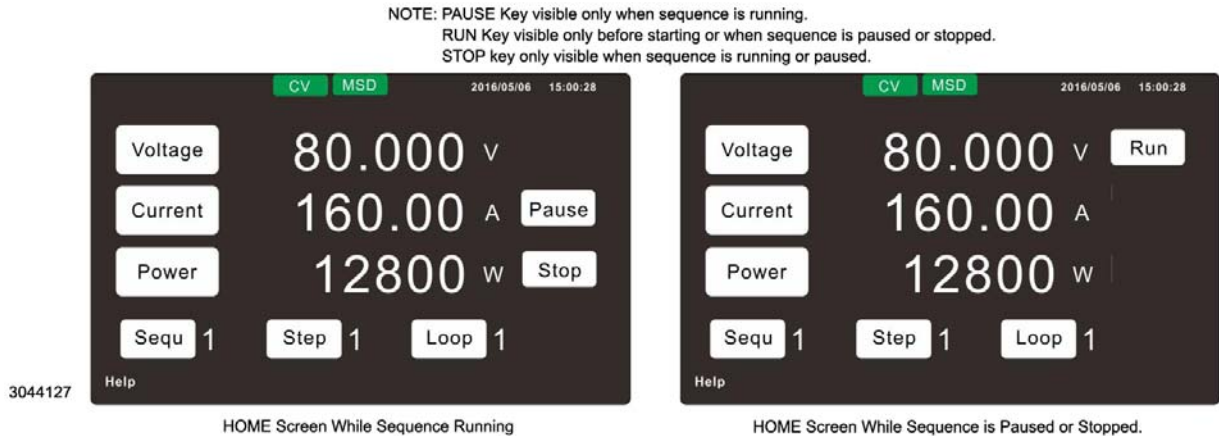

FIGURE 3-17. HOME SCREEN WHEN INSERTION MODE SELECTED^(‡)
1. Press **HOME** for at least 1.5 seconds to return to the Home screen, which will be modified as shown in Figure 3-17 to show the starting sequence, step and loop number with Output ON and existing voltage, current and power settings still in effect.